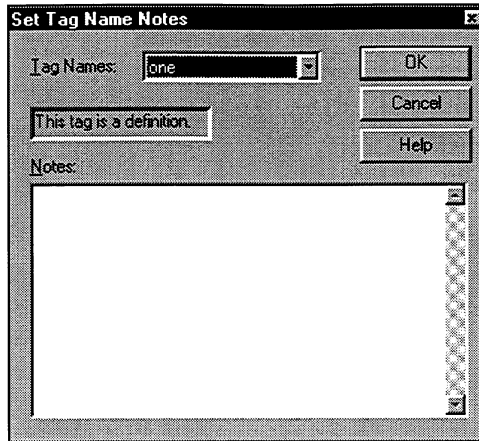

Figure 8-7. Set Tag Name Notes dialog box
9. If unresolved tags are associated with the symbol, the Set Tag Name Notes dialog box opens, as shown in Figure 8-7.